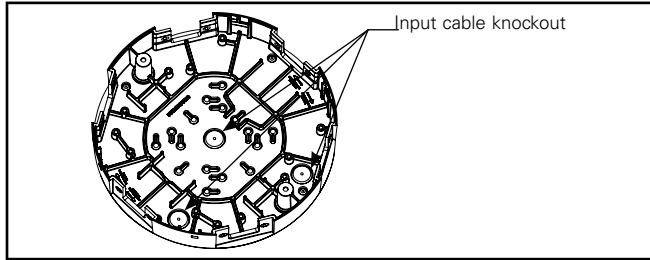

Figure 1.
1. Break/Drill the knockout in HUB top cover for input cable as needed, typically the center location. (Figure 1).